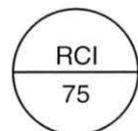

Figure 47. Instrument Tag
4. Determine the measured variable indicated in the instrument tag in figure 47.